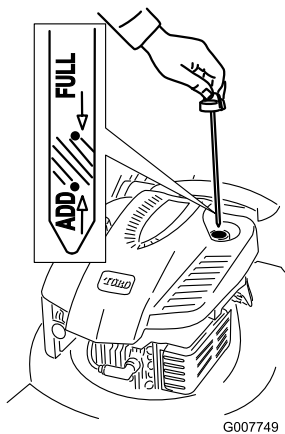

Figure 8
1. Remove the dipstick (Figure 8).
2. **Slowly** pour oil into the oil fill tube until the oil level reaches the **Full** mark on the dipstick (Figure 8). **Do not overfill.** (Max. fill: 0.59 l, type: SAE 30 detergent oil with an API service classification of SF, SG, SH, SJ, SL, or higher.)
1. Remove the dipstick, wipe it clean, and fully install the dipstick (Figure 8).
2. Remove the dipstick and check the oil level (Figure 8). If the oil level is below the **Add** mark on the dipstick, **slowly** pour oil into the oil fill tube to raise the oil level to the **Full** mark on the dipstick. **Do not overfill.** (Max. fill: 0.59 l, type: SAE 30 detergent oil with an API service classification of SF, SG, SH, SJ, SL, or higher.)